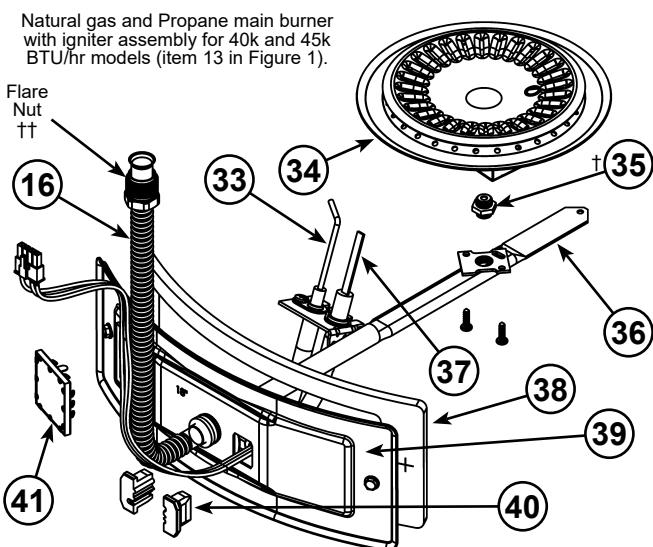
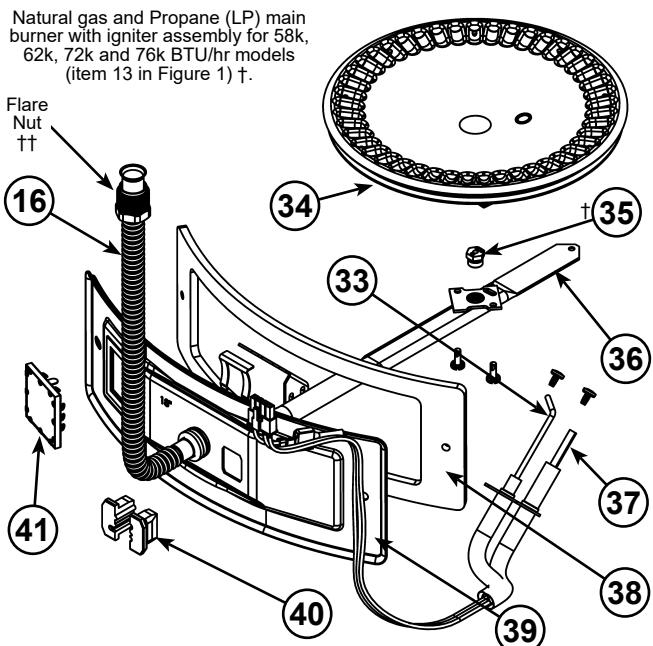

Figure 3.
Figure 4.
| 1 Termination Elbow with Vent Screen | 16 Flexible Manifold Tube (see Figure 3 & Figure 4) | 35 Gas Orifice (see Figure 3 & Figure 4) |
| 2 *Vent Pipe | 17 ***Control Harness | 36 Gas Manifold (see Figure 3 & Figure 4) |
| 3 *Vent Pipe Elbow (long radius) | 18 *Sediment Trap | 37 Hot-Surface Igniter (see Figure 3 & Figure 4) |
| 4 *Union (Di-electric water connection) | 19 *Ground Joint Union (gas connection) | 38 Manifold Door Gasket (see Figure 3 & Figure 4) |
| 5 Cold-Water Inlet Nipple/Diptube | 20 *Main Manual Gas Shut-off Valve | 39 Manifold Door (see Figure 3 & Figure 4) |
| 6 **Combo Heating System Supply Outlet (Optional) | 21 *Gas Supply* | 40 Two Piece Grommet With Clip (see Figure 3 & Figure 4) |
| 7 T&P Valve | 22 Anode (under cap) | 41 Viewport (see Figure 3 & Figure 4) |
| 13 Manifold Door Assembly (behind outer door) (see Figure 3 & Figure 4) | 28 ***Blower with Power Cord (see Figure 5) | 47 Exhaust Air Pressure Switch (NO) (inside box) (see Figure 5) |
| | 33 Flame Sensor Rod (see Figure 3 & Figure 4) | |
| | 34 Sheet Metal Burner (see Figure 3 & Figure 4) | |